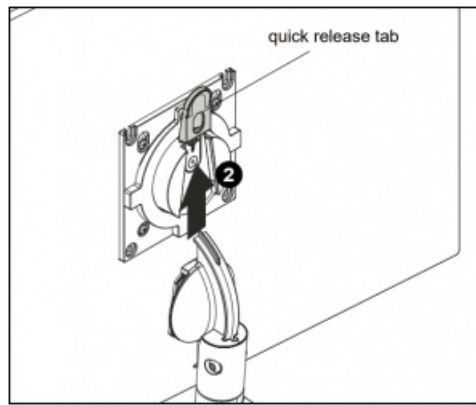

Figure 14
**WARNING:** Only remove display from mount when the display can be lifted up from the mount! DO NOT remove display unless the display is in the upright position! (See Figure 14)
2. Remove quick release faceplate from mount by pulling quick release lever and sliding faceplate off mount. (See Figure 14)